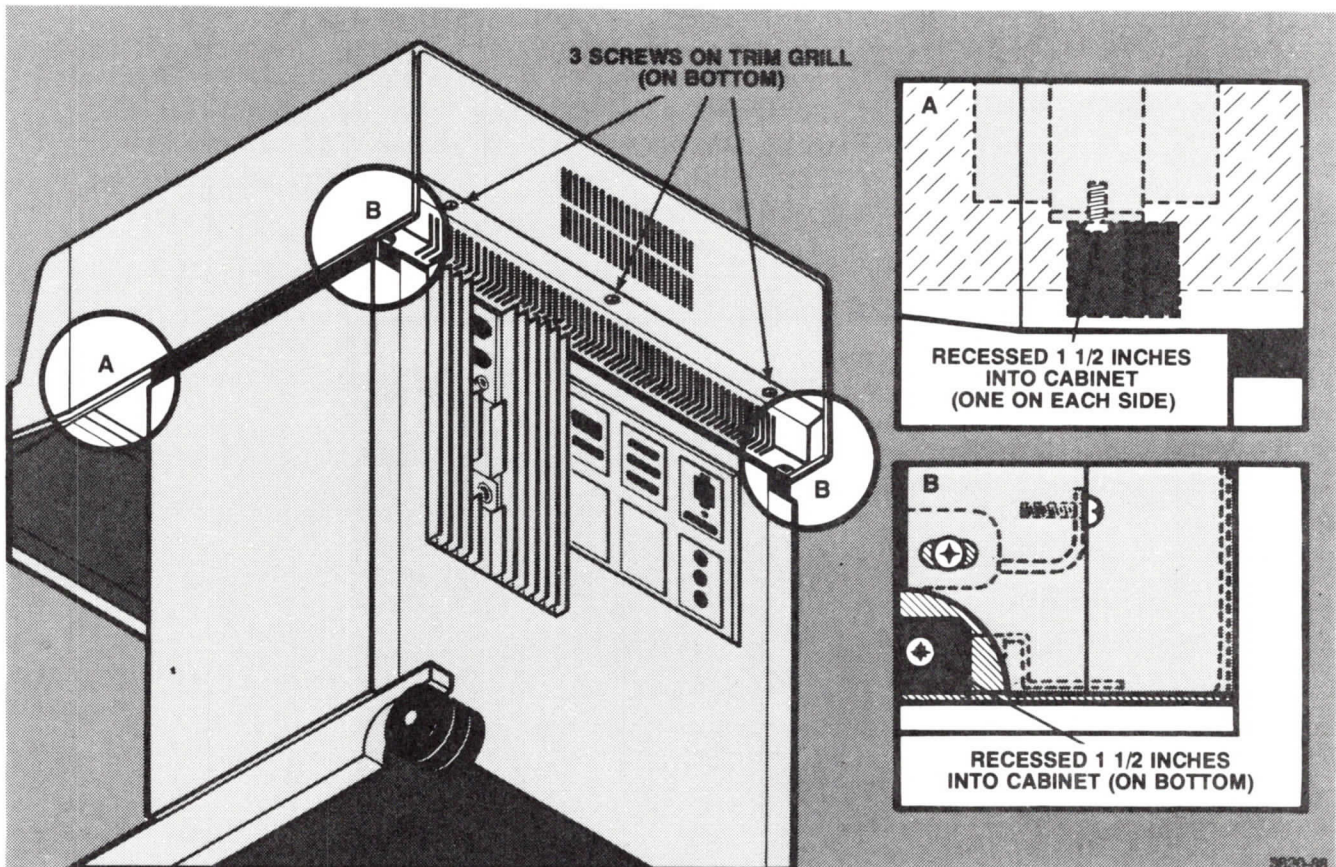

Figure 11-12. Trim Grill and Cabinet Top Screw Locations.
5. Remove the seven screws that hold the cabinet top on. Four are located in the four corners of the cabinet top -- recessed about 1.5 inches in from the bottom of the cabinet top. The last three screws are located in a line on the rear of the trim grill, pointing upward and screwed into the cabinet top. (See Figure 11-12.)